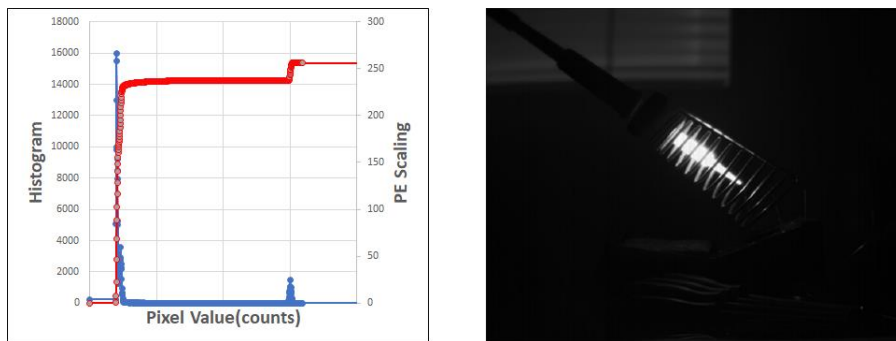

Figure 7 - PE Scaling of a Soldering Iron
Plateau Equalization (PE) is a non-linear scaling algorithm that basically takes the top 256 peaks in the histogram and maps them to the 8-bit data output. This ensures that the mapping maximizes over where the data is changing and ignores unused data values, as shown in Figure 7.